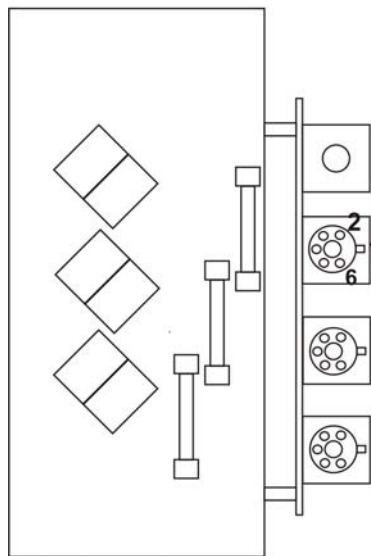

Figure 3. TCC parallel configuration, using three 6-port valves.
- Mount the 6-port valve with port 1 facing to the right-side of the detector (see figure 10). In case of multiple 6-port valves supplied with an online parallel DCC or TCC configuration, mount the valves as depicted in figure 3. In case of the 14-port valve mount the valve in such a way that port 1 is facing to the left-side (see figure 5).